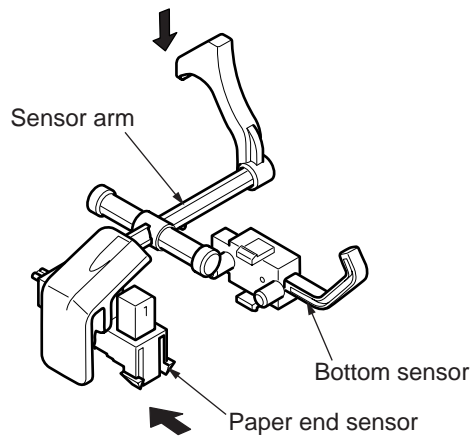

Figure 11
(1) Cut sheet detection/Rear feed detection (See Figure 11.)